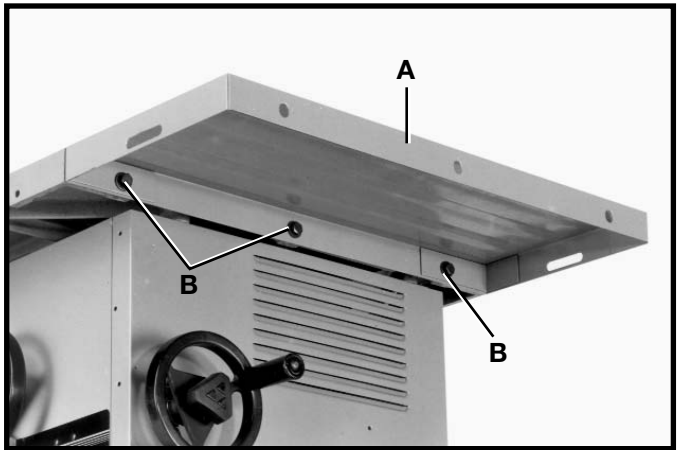
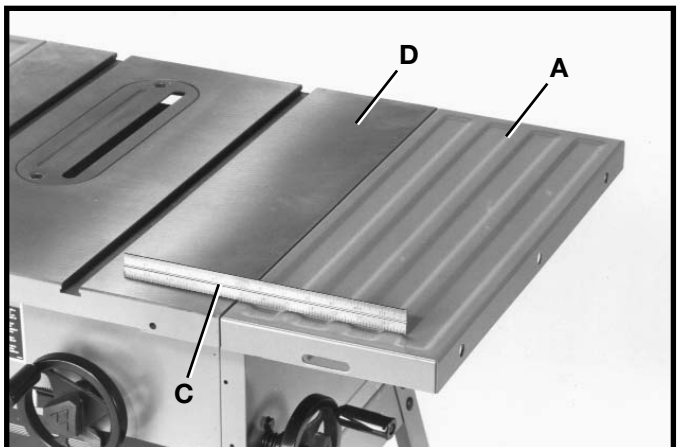

Fig. 9
Fig. 10
1. Assemble extension wing (A) Fig. 9, to the saw table using the three 16MM screws, lockwashers, and flat washers (B). With a straight edge (C) Fig. 10, make sure the extension wing is level with the saw table before tightening the three screws (B) Fig. 9.